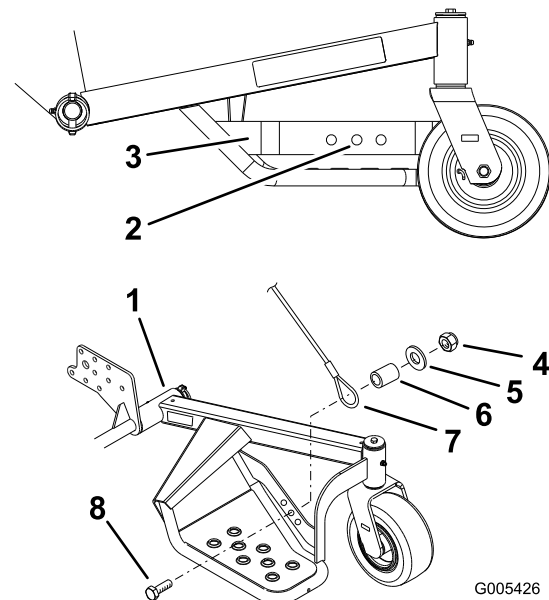

Figure 21
4. Install the nut (5/16 inch), small washer, spacer, lanyard and bolt (5/16 x 1 inch) into the desired hole (Figure 21).
1. Remove the nut (5/16 inch), small washer, spacer, lanyard and bolt (5/16 x 1-1/4 inches) from the sulky side support (Figure 21).
3. Locate the three adjustment holes in the sulky assemblies (Figure 21). The hole closest to